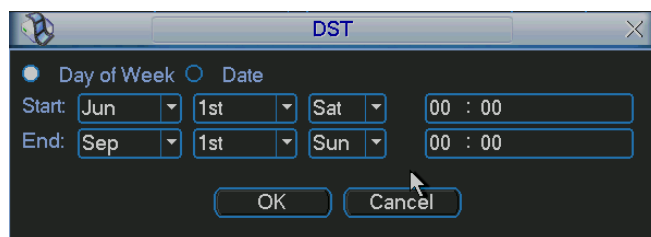
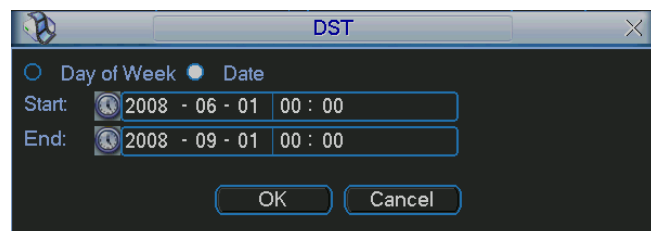

Figure 4-34
Figure 4-35
- DST: Here you can set DST time and date. Please enable DST function and then click set button. You can see an interface is shown as in Figure 4-34. Here you can set start time and end time by setting corresponding week setup. In Figure 4-34, enable date button, you can see an interface is shown as in Figure 4-35. Here you can set start time and end time by setting corresponding date setup.